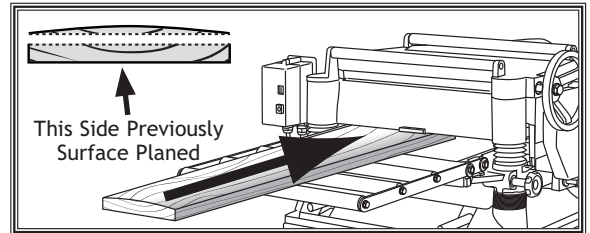

Figure 33. Surface plane on a thickness planer.
2. **Surface Plane on a Thickness Planer:** The opposite face of the workpiece is surface planed flat with a thickness planer (**Figure 33**).